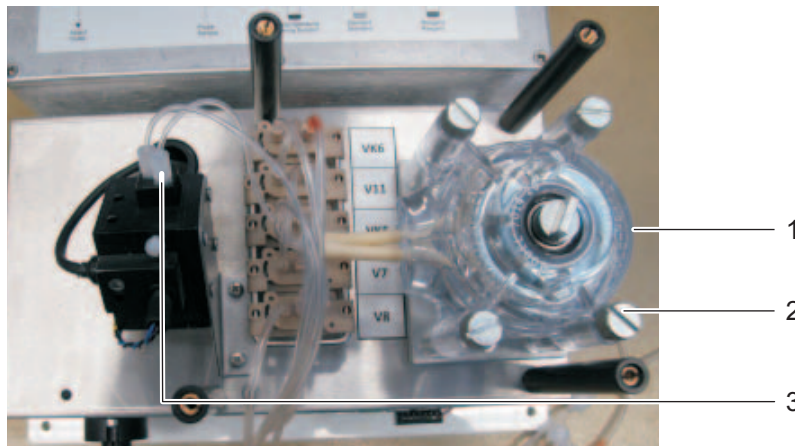

Fig. 5-13: Photometer unit without plastic cover
- 26 Connect both ends of the pump tube. See Fig. 5-13,  86.